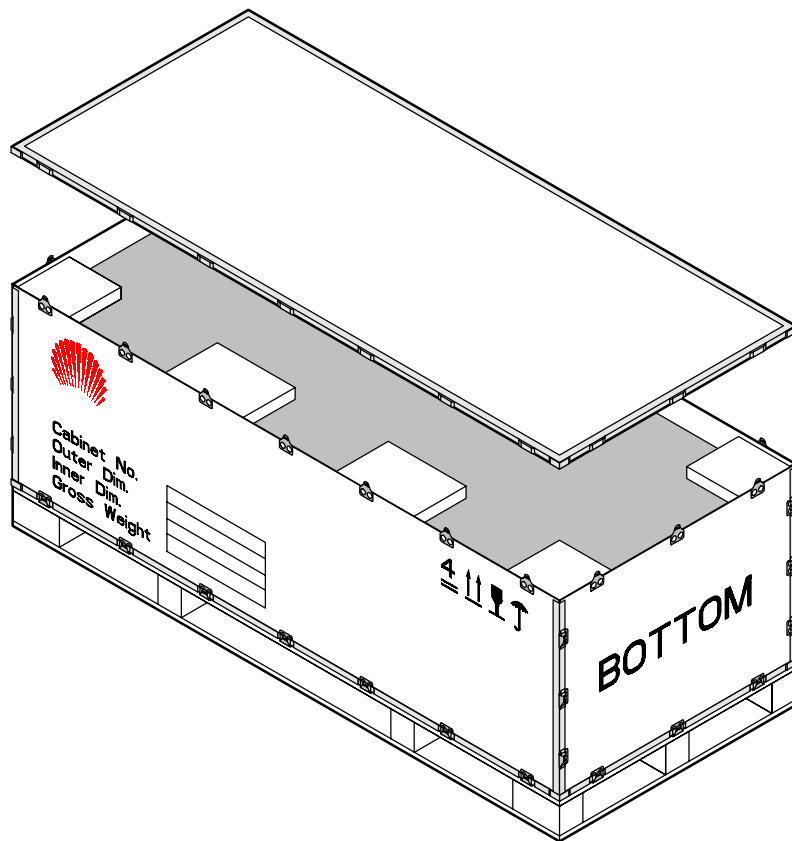

Figure 1-2 Removing the cover
- 3) After straightening all the tongues on the cover, remove the cover, as shown in Figure 1-2.